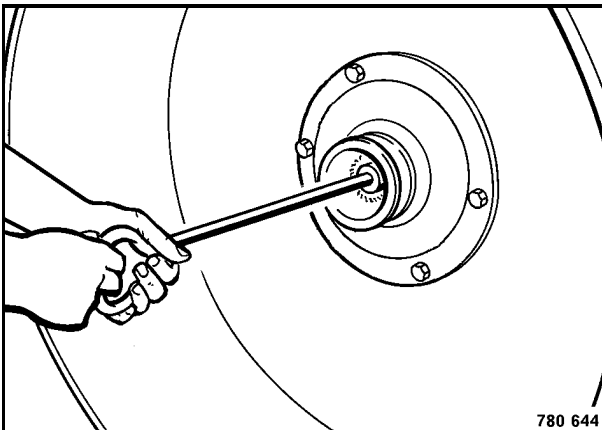

Fig. 12
17. Pull the exciter shaft out of the flange against the stop (Fig. 12).